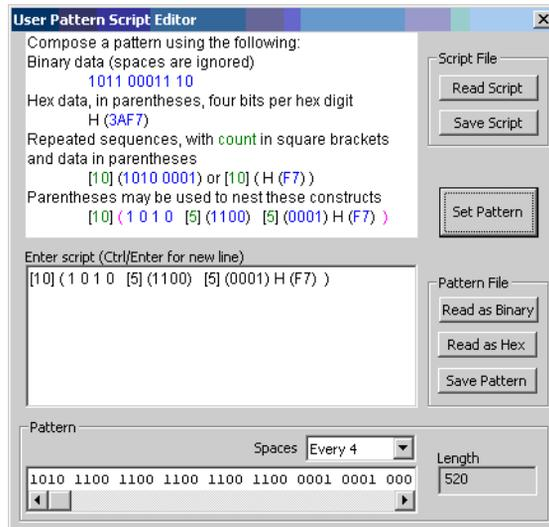

Figure 3-4. User Pattern Editor
- 3 Click **Edit** to view the User Pattern Script Editor shown in Figure 3-4. The editor uses an abbreviated script syntax, which is explained in the editor.